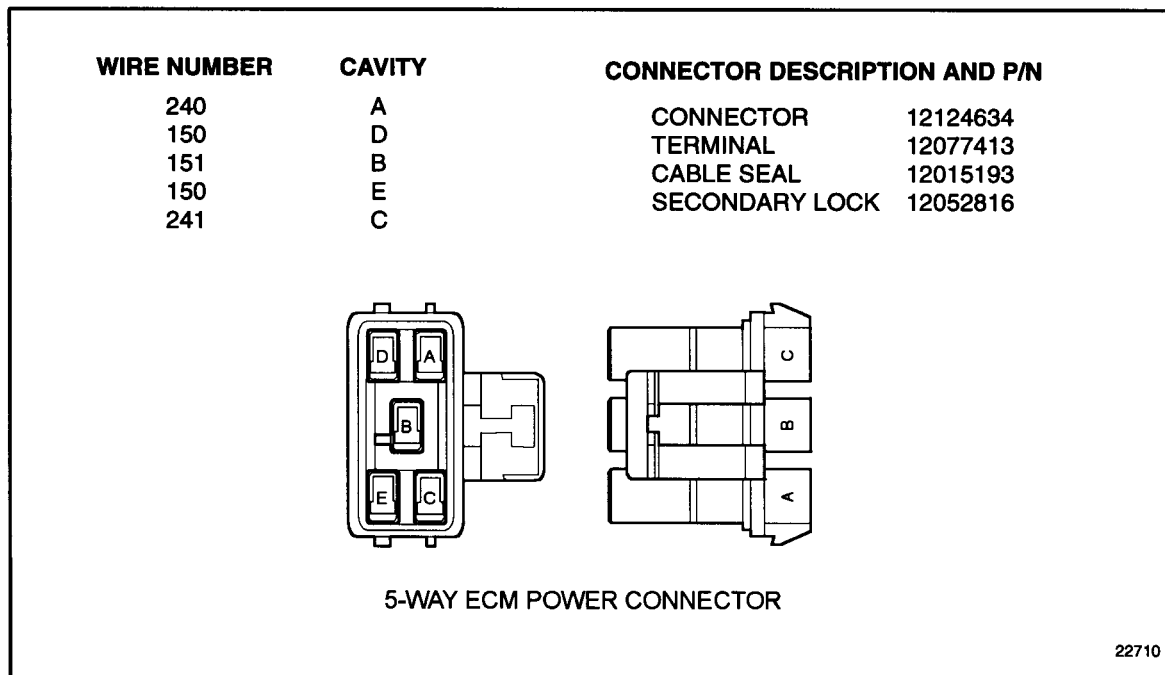

Figure 10-2 5-Way ECM Power Harness Connector
2. Disconnect the 5-way power harness connector at the ECM. See Figure 10-2.